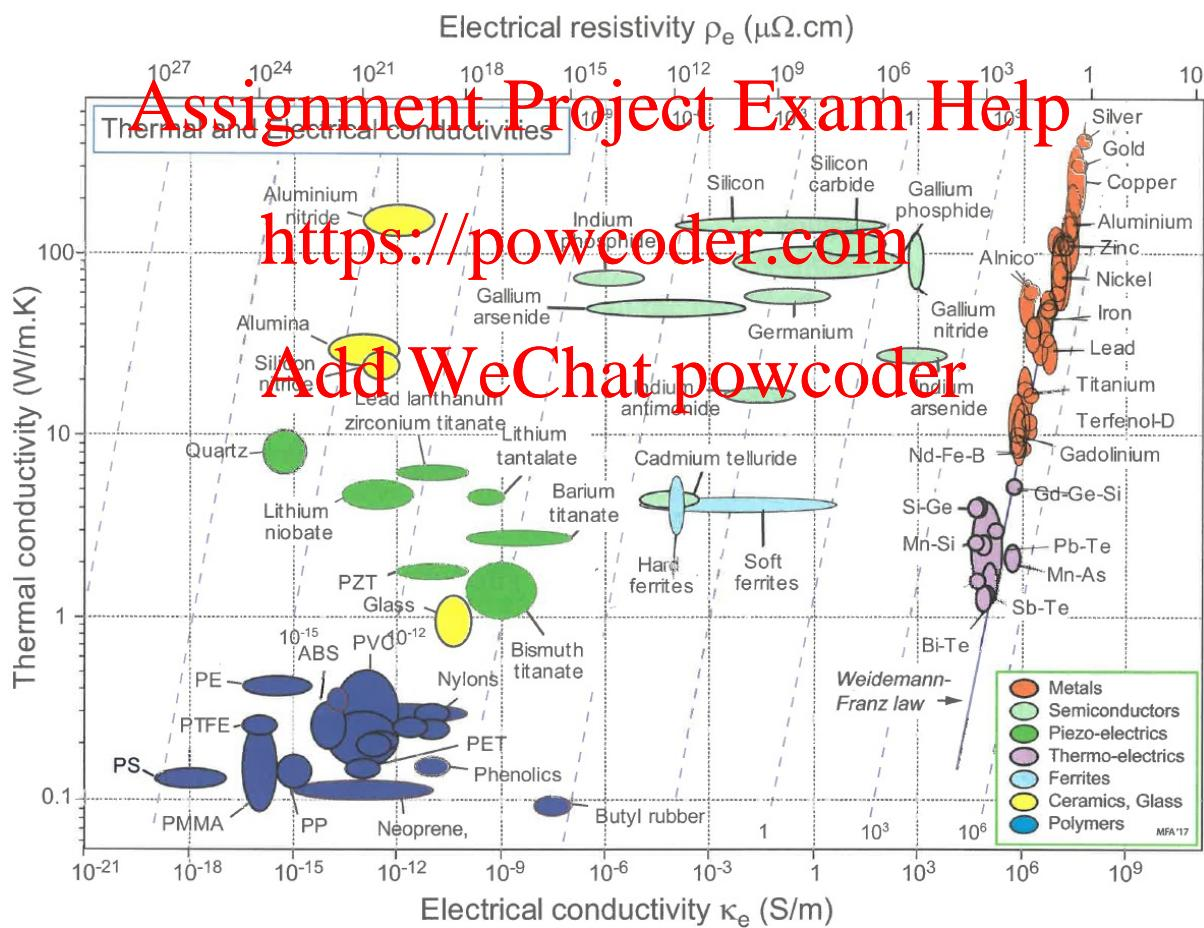

Figure 7. Material property chart relating thermal conductivity with electrical resistivity and electrical conductivity (Ashby, Shercliff, and Cebon 2019, 421).
5. The metal used is the same one (sample 1) that you measured for yield strength and electrical resistivity in Experiment 1. If the thermal diffusivity (a) of the sample is $6.5 \times 10^{-5} \text{ m}^2/\text{s}$, use Figure 7 to identify the metal. The thermal diffusivity of a material is related to its other properties by: